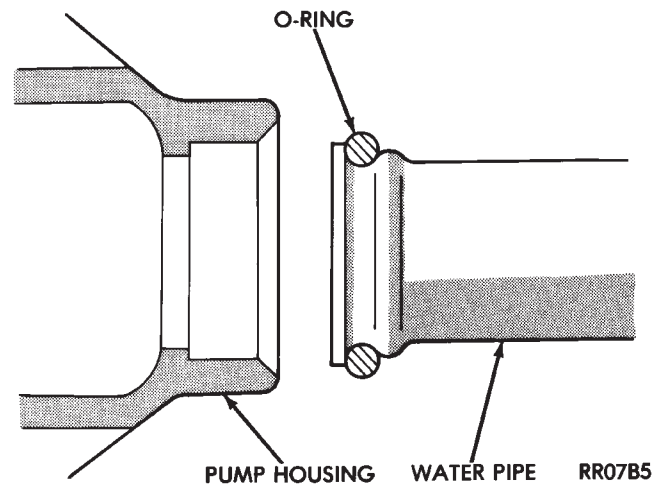

Fig. 5 Water Pipe O-Ring
(1) Clean all gasket and O-ring surfaces on pump and water pipe inlet tube.
(2) Install new O-ring on water inlet pipe (Fig. 5). Wet the O-ring (with water) to ease assembly.